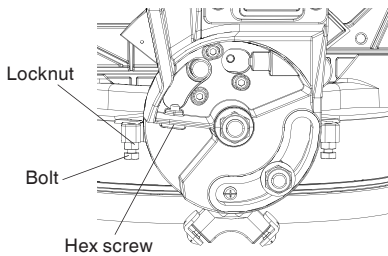

Fig. 17
- (1) Set the miter angle to 0°. Fully extend the sub fence (A) completely to the right, and then pull the set pin (A) towards the front of the machine.
**NOTE: When retracting the set pin (A), it may be necessary to shift the mitre saw upper arm assembly to the left/right to release the holding pressure.**
- (2) Loosen the bevel lock handle and tilt the gear case completely to the right.
- (3) Using a combination square, check to see if the blade is 45° to the table.
- (4) To adjust, tilt the gear case to 0°, loosen the locknut, and turn the bolt in or out to increase or decrease the angle as shown in Fig. 17.
- (5) Tilt the cutting arm back to the right, and recheck alignment.
- (6) Repeat steps until the blade is 45° to the table. Once alignment is achieved, tighten locknut and bevel lock handle when alignment is achieved.